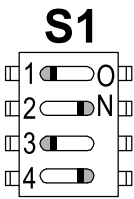

Figure 11.1 DIP Switch S1 Settings for the Self RAM Check
1. Set DIP switch S1 as shown in Figure 11.1.